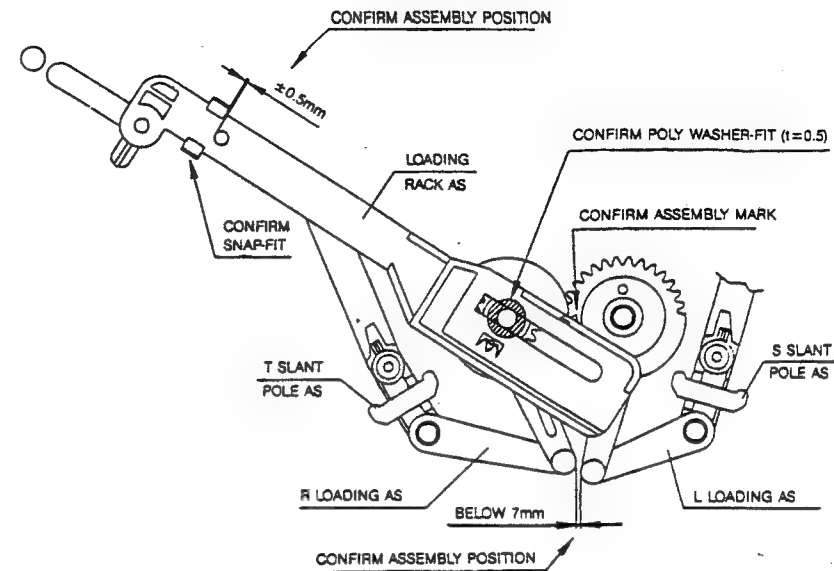

Fig. 1-5 Reference of assembly for the Loading Rack and R/L Loading AS
- 3) Make sure of the assembly position between the Loading Rack and the R & L-Loading Ass'y (refer to Fig. 1-5).